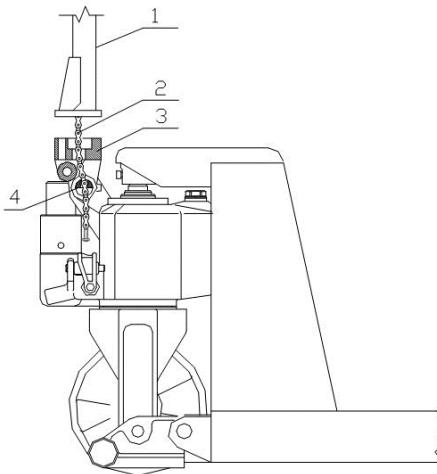

Fig. 1
3.1 See Fig. 1. First, raise the handle (1) and pass the roller chain (2) through the holes of the rack (3) and the axle pin (4).